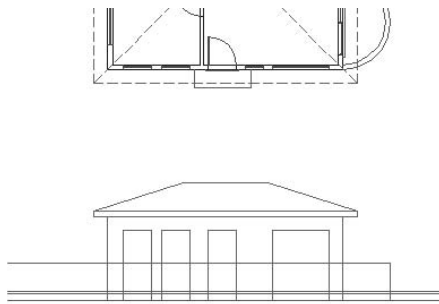

FIGURE 8.13: Trimming the top of the door and windows
6. To trim, pick the horizontal line at each segment between the windows and the door and near the endpoints of the line (5 places). Then pick each selected dropped line above the tops of the windows and door (8 places). This makes 13 places to pick. Then press \downarrow . The results of the trim are shown in Figure 8.13.